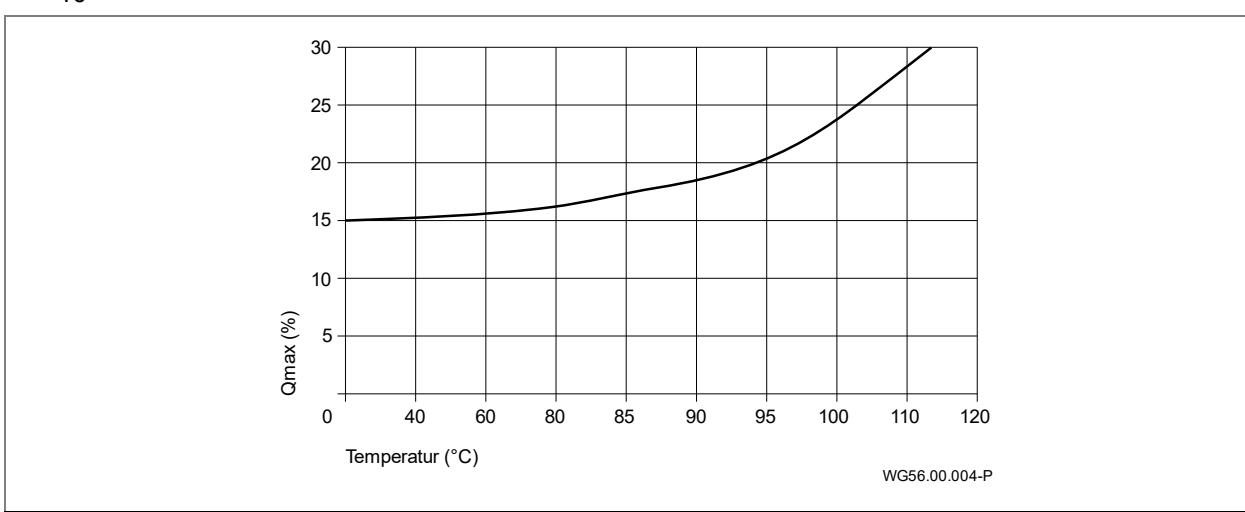

Fig. 1
- The minimum flow rate must be adhered to. The minimum flow rate corresponds to a percentage of the maximum flow rate Q_{\max} dependent on the temperature of the pumped fluid. See "Fig. 1" on page 10